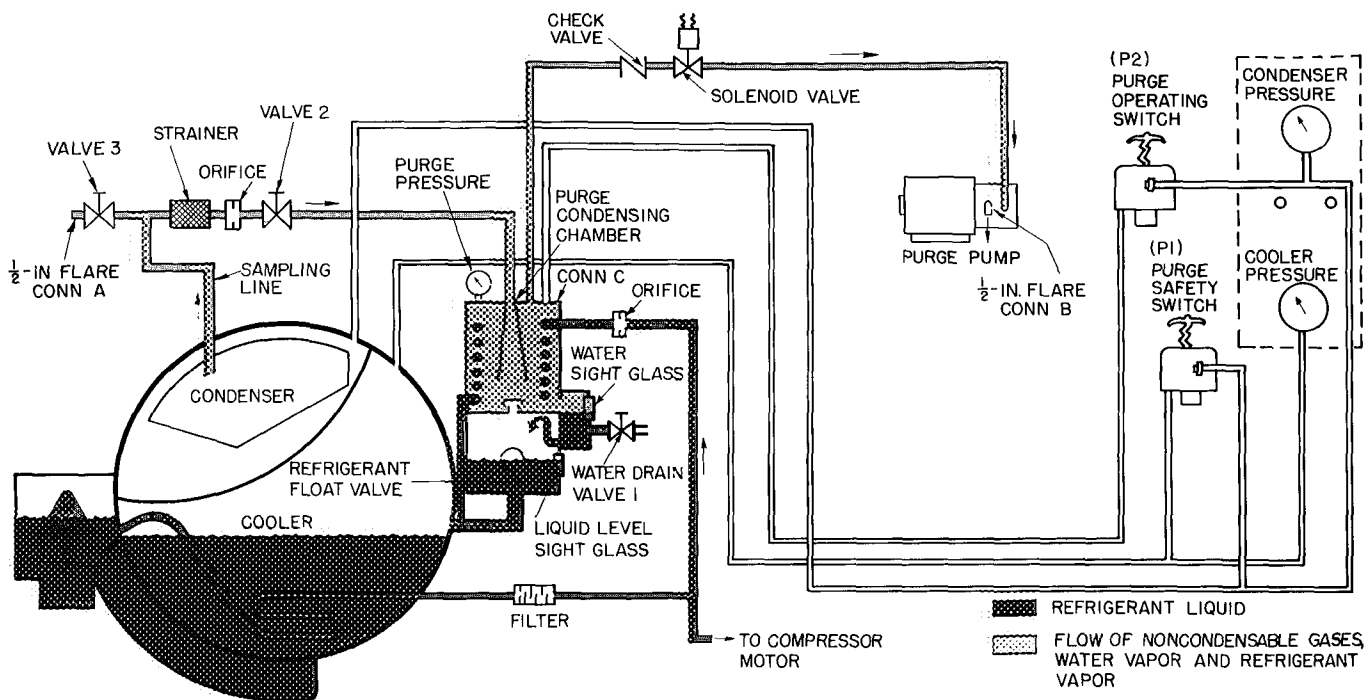

Fig. 11 — Purge Cycle
Solenoid and check valve leaking	Allow smoke to drift past connection B (Fig. 11) If smoke is drawn into line, repair or replace valves
A sampling line from the condenser (Fig. 11) continually brings refrigerant gas, and any contaminants, into the purge condensing chamber. Here the gas-vapor mixture passes over a cooling coil. Since the refrigerant liquid within the coil is colder than the mixture surrounding it, the refrigerant gas and water are condensed to liquid.
- 2 Connect hose or tubing between connection A at valve 3 and connection B at purge pump outlet (see Fig. 11). Remove tubing D between purge solenoid valve and purge pump suction.